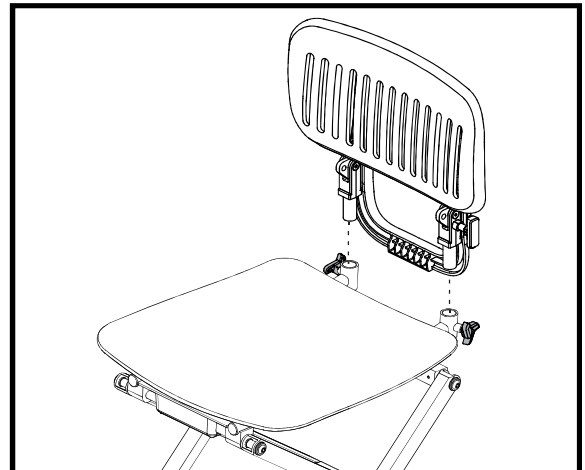

Figure 16. Seat Back Removal
**Removing the seat back from disassembled scooter (see figure 16):**